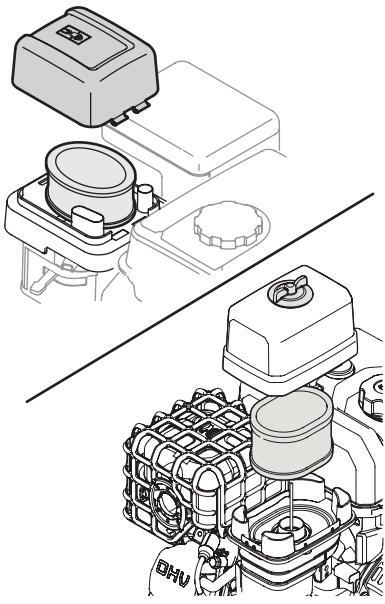

Figure 6-5
1. Press the tab on the air filter cover and lift the cover, or un-thread the thumbscrew, depending on the model of engine you have. See "Figure 6-5".